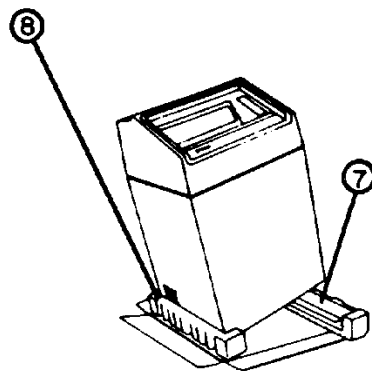

FIGURE A-9
7. Tilt the printer to one side and kick the section of foam out from under the printer. Slowly lower the printer back onto the base tray. See Figure A-9.